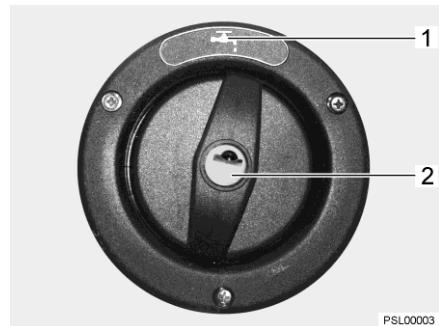

Fig. 66 Cap for the drinking water filler neck
The drinking water filler neck is indicated by the symbol "faucet" (Fig. 66,1). The cap is opened and closed using the key for the external flap locks.
- Insert key into locking cylinder (Fig. 66,2) and turn a quarter turn in an anticlockwise direction.
- Open drinking water filler neck (Fig. 66).